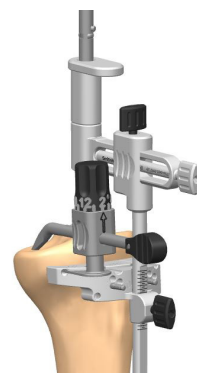

Figure 108
1. With the Adjustable Tibia Stylus set to the desired resection level, using non-headed 65mm pins, pin the cutting guide in position through the holes marked '0.' For additional fixation, a headed or non-headed 65mm pin can be inserted through the oblique pin hole (Figure 108).